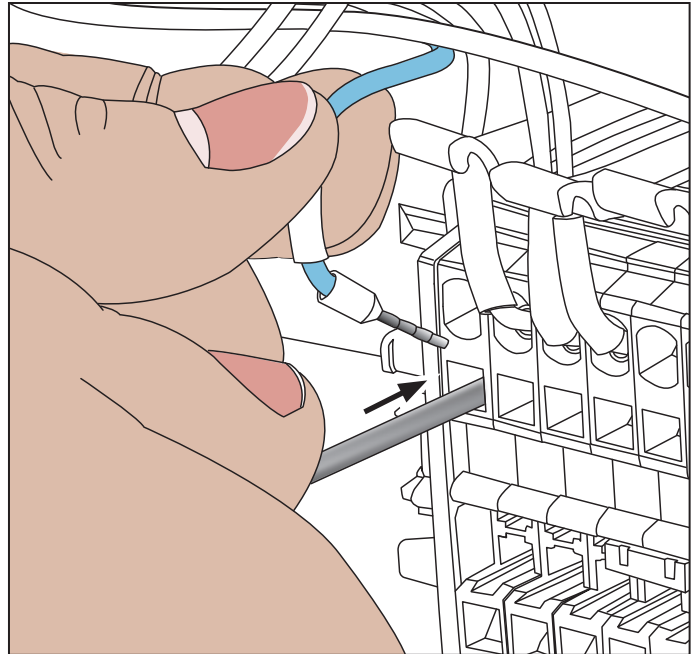

Figure 15
- a. Slowly insert the end of a small, flat-head screwdriver into the slot above or below the selected wire connection site (see **Figure 15**).